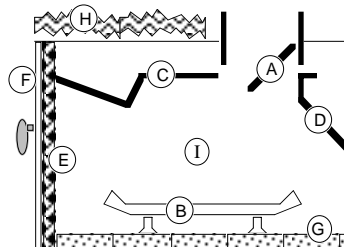

Figure 4
- The damper ("A") and grate ("B") must be removed (see Figure 4). The smoke shelf ("C"), internal baffles ("D"), screen ("E"), and metal or glass doors ("F") may be removed (if applicable). The masonry lining ("G"), insulation ("H"), and any structured rigid frame members (metal sides, floor, door frame, face of the fireplace, etc. - "I") may not be removed or altered